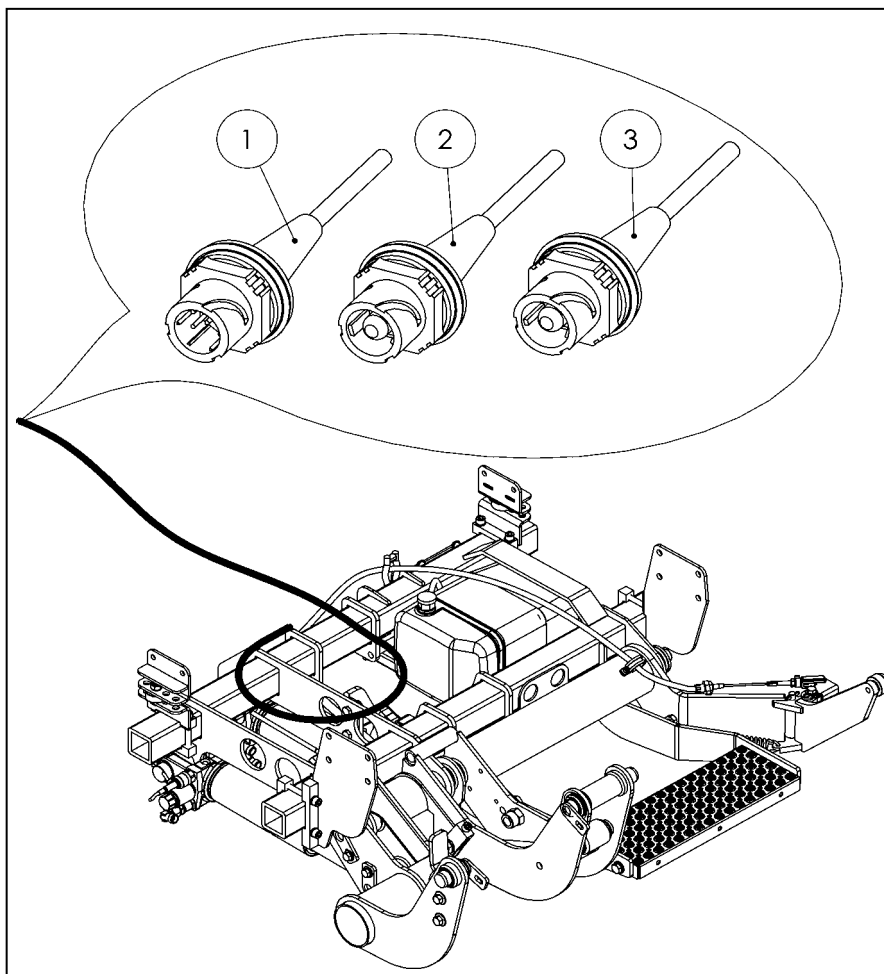

Figure 18
- Route the power cable and the cable for the cabin switch unit to the junction box provided (Fig. 18).